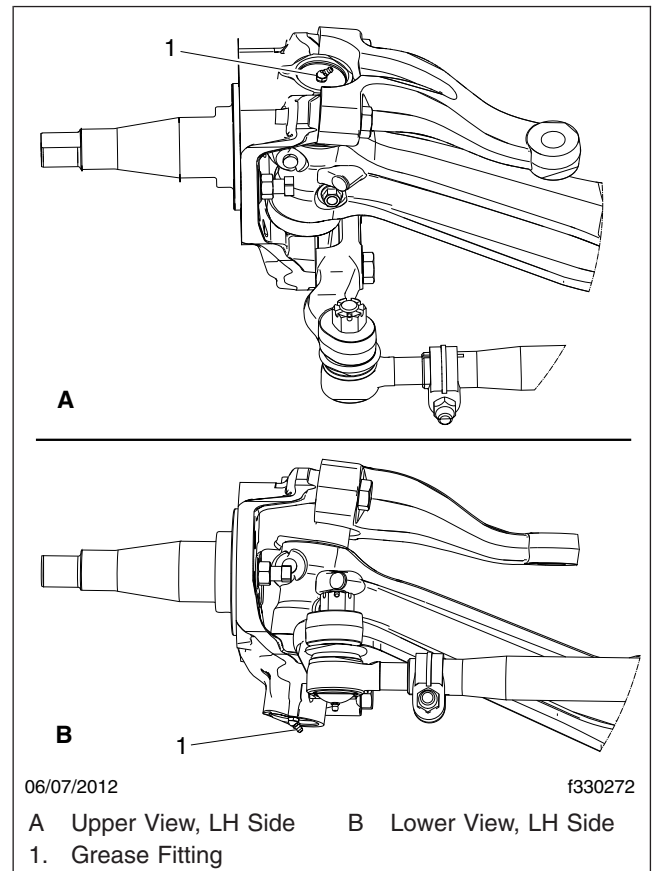
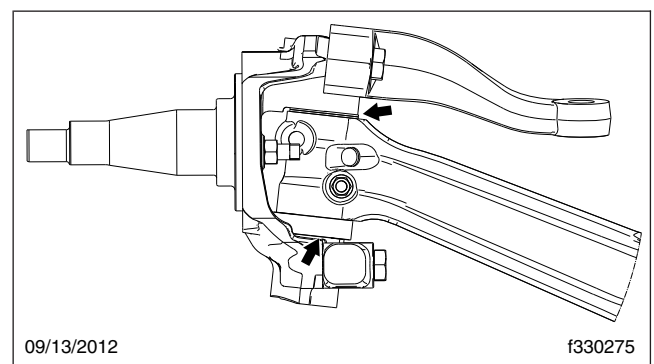

Fig. 1, Grease Fittings, Detroit Axles
Fig. 2, Knuckle Pin Grease Exit Points, Detroit Axles
3. Apply multipurpose chassis grease, NLGI Grade 1 (6% 12-hydroxy lithium stearate grease) or NLGI Grade 2 (8% 12-hydroxy lithium stearate grease), until new grease is seen at the junctions of the axle beam and knuckles. For locations of grease fittings, see Fig. 1; for grease exit points, see Fig. 2.